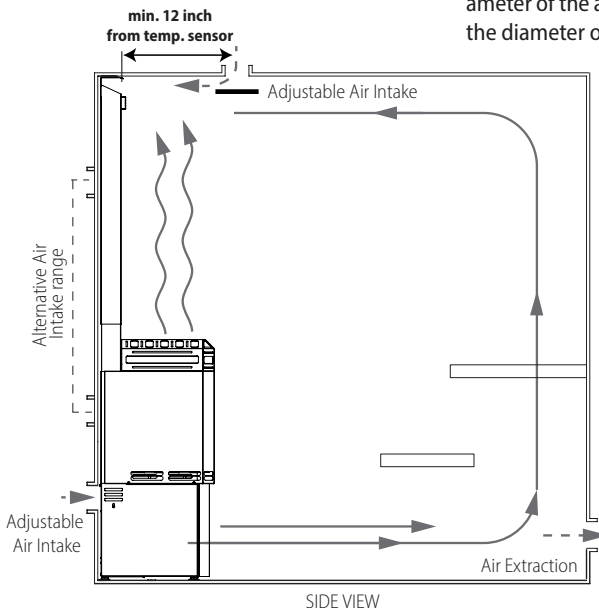

Figure 1
- The dimensions of the device are shown in **Figures 1** (see pages 25).
It is also necessary to prepare the air intake and exhaust air of the steam room in advance as shown on **Figure 1 & 2** (pages 21 and 22) and preparation for directing the cables of the device to the adjacent dry room.
* Recommended location of the air intake hole. Exact location may vary. See Figure 1 & 2.